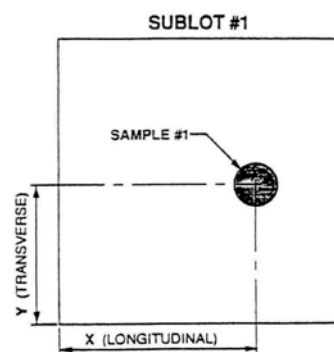

Figure II-1. Determination of sample location using random numbers.
3. *Sublot samples.* The location at which each sample will be obtained must be randomized in the longitudinal as well as the transverse direction. This was illustrated in Figure II-1. The random number selection procedure is the same as used for the previous examples except that two sets (columns, rows, etc.) of random numbers are selected: one for the transverse position, the other for the longitudinal position. A set of five random numbers for the longitudinal (X) and transverse (Y) position of the sample is chosen by using the first and second blocks of random numbers from the random number table. These are reproduced as follows: